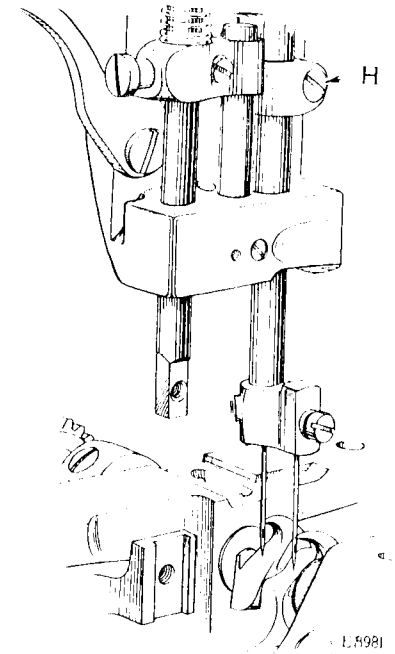

FIG. 5
stroke of the needle bar, as shown in Fig. 5, the eyes of the needles will be about $\frac{1}{16}$ inch below the points of the loopers. Be sure that the needles are set up into the needle clamp as far as they will go.
If the needle bar is not correctly set, loosen the clamping screw (H, Fig. 5) and move the needle bar up or down as required. Before tightening the clamping screw (H), see that the needles are in line with the needle holes in the throat plate.
The left-hand looper should act in unison with the right-hand looper and the points of both loopers should reach the centres of the needles at the same time, as shown in Fig. 5.